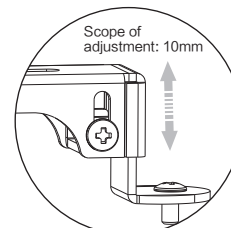

figure 15
4. Rotate the adjustable screw (4-3) for adjusting the height of installation arms (4-2) if the installation holes are not at the same level as figure 15